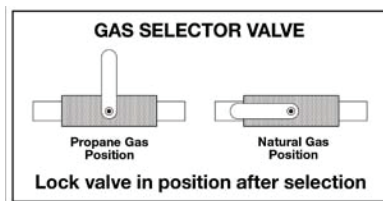

Fig. 4
This operation may be carried out several times during the working life of the machine and not only at initial startup. Therefore, first of all check the adhesive label attached to the gas selector valve in Fig. (2)(a) to establish the original category of the gas and then consult Tab. I to identify the supply pressure, the working pressure, the using conditions of manual valve. To change kind of gas it is necessary (Fig. 4):